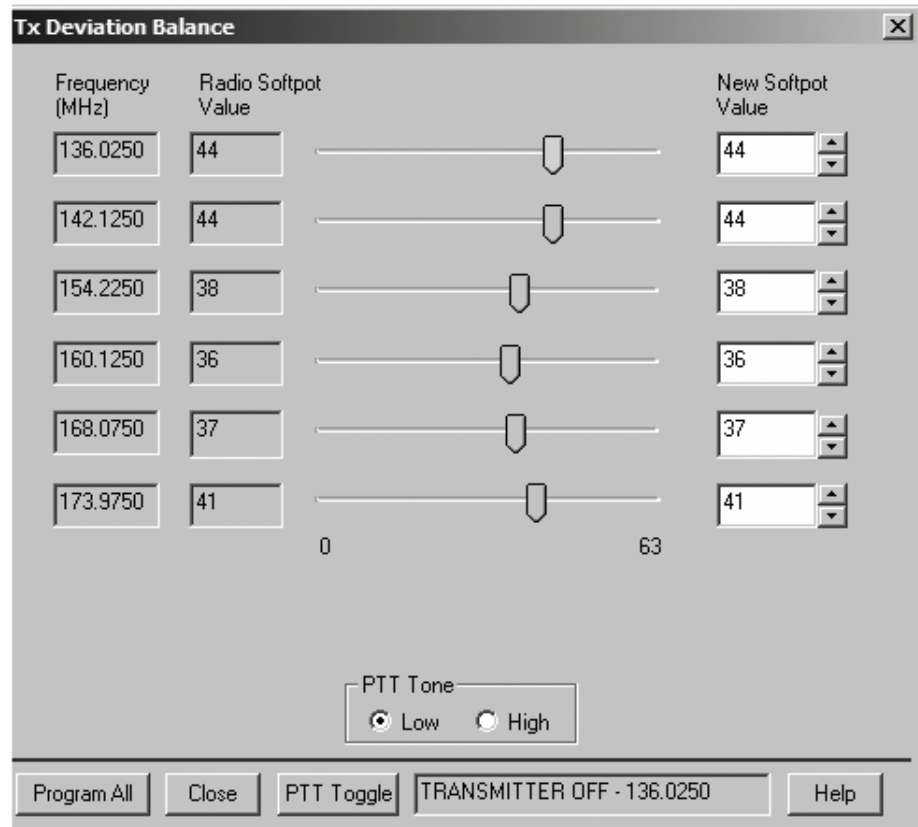

Figure 10. Transmit Deviation Balance Alignment Screen
3. Select the **TX Deviation Balance** alignment screen. The screen indicates the transmit frequencies to be used. See Figure 10.